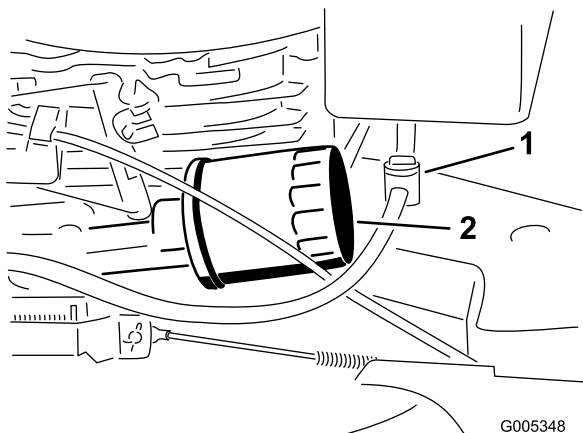

Figure 14
2. Open the fuel valve (Figure 14).